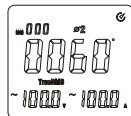

Figure 11-2
- Please press SELECT key to select the 2nd phase location of ϕ 2 shown in Figure 11-2. It also can display apparent power, voltage and current of phase location of ϕ 2.